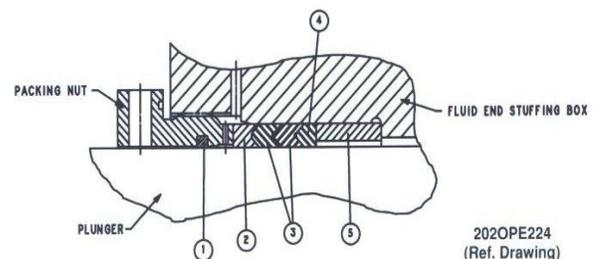

FIGURE 4-2 Packing Assembly
10. Install the packing in the packing bore with the packing lips toward the front of the fluid end. See FIGURE 4-2.